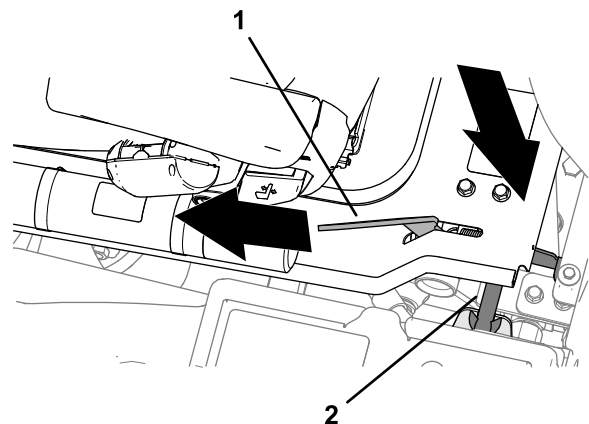

Figure 43
2. As the platform nears the fully lowered position, move the platform-latch handle (Figure 43) toward the front of the machine.